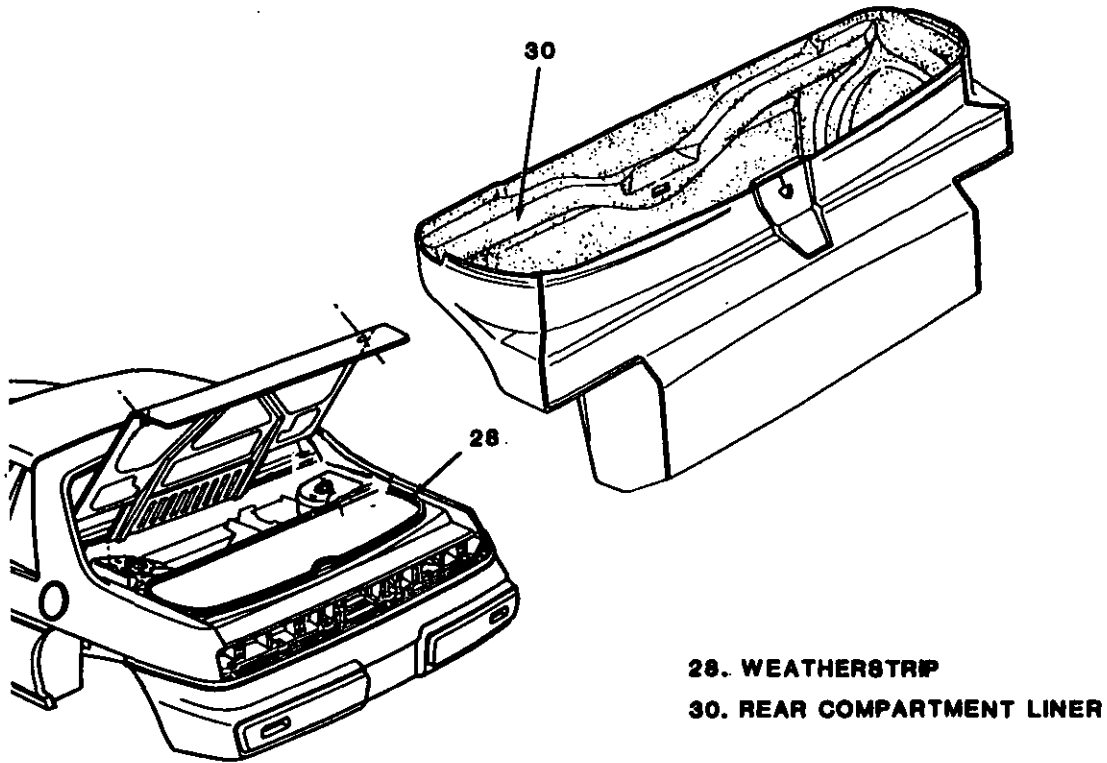

Fig. 13-Rear Compartment Liner
**↔** Remove or Disconnect (Figure 13)
1. Rear compartment weatherstrip (28)
3. Rear compartment liner (30)
**→←** Install or Connect (Figure 13)
1. Rear compartment liner (30)
3. Rear compartment weatherstrip (28)